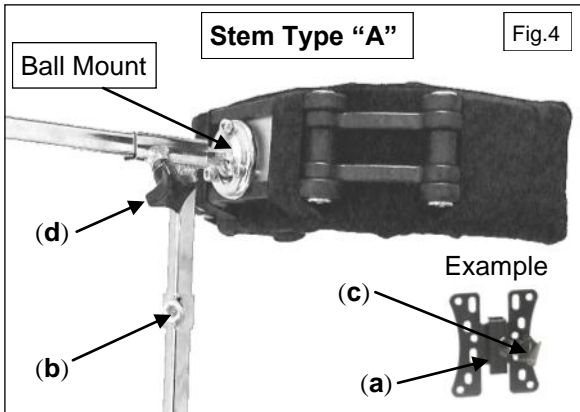

Fig.4
- Slacken the black thumb-screw (c) on the Receiver and grub-screw (b) on the height pre-set collar Fig.4. This allows the whole assembly to be raised or lowered to the required height. After completing the positioning adjustments, re-secure thumb-
Depth adjustment can be made by slackening thumb-screw (d) Fig.4 and sliding the Headrest and horizontal stem forwards or rearwards to the required position.